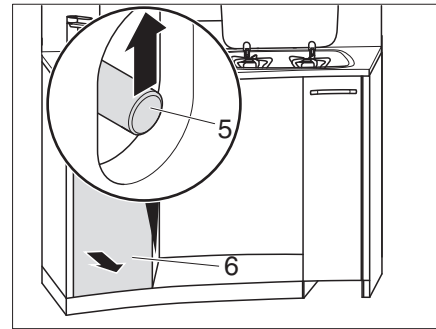

Fig. 121 Unlocking high kitchen drawers
- Grasp through the opening and slide the push rod (Fig. 121,5) upwards.